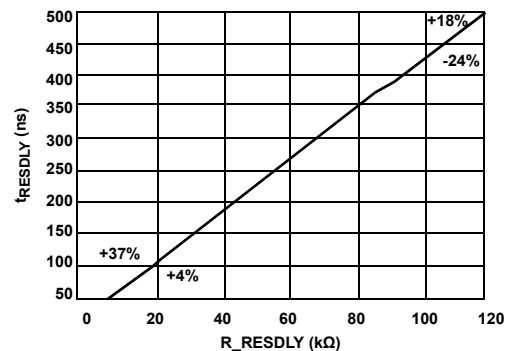

FIGURE 10. R\_RESPLY vs RESPLY
- Figure 10 illustrates the relationship of the value of the resistor ( $R_{RESPLY}$ ) and the resonant delay ( $t_{RESPLY}$ ). The percentages in the figure are the tolerances at the two end points of the curve.